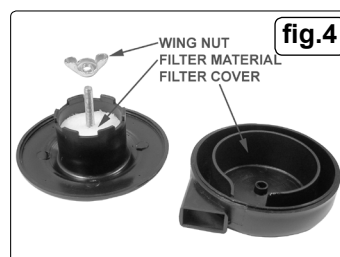

fig.4
- 3.8. Screw the back half of a filter unit into the downward facing port openings in each head as shown in fig.2.A. Place a filter cover over each threaded rod protruding from the back half of the filter and secure each with a wing nut. Refer also to fig.4.
b) Remove the filter elements (See fig.4) and clean with compressed air. (Wear eye protection). **DO NOT** operate the compressor without the filters as foreign bodies or dust could seriously damage the pump.
- a) Replace air filter. (See fig.4)